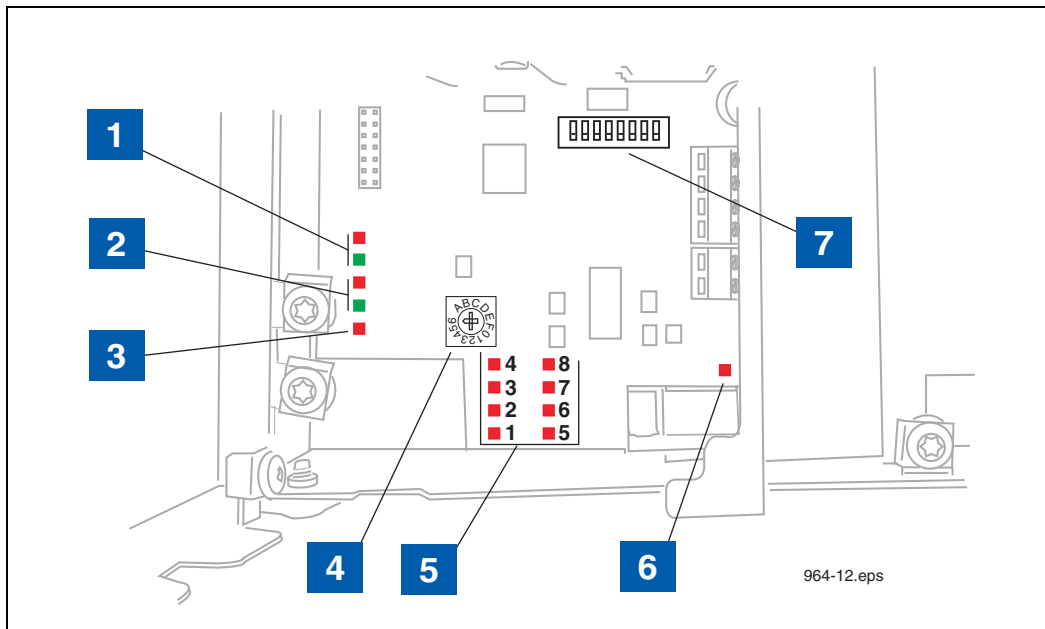

Figure 12. TLS RF Diagnostic LEDs And Switch Locations
- b. Go to the TLS RF, open its cover. One of the 8 Red received LEDs should be flashing (refer to item 5 in Figure 12). Observe which LED is lit and compare it against the Transmitter Device Number; they should match. For example, if the Transmitter ID is set to 1, the LED number 1 in the TLS RF should be flashing.
2. In this example, device output 1 is a Mag probe - Observe polarity. Note: each time a transmission is received from this device, LED 1 (see item 5 in Figure 12) will flash.
3. In this example, device output 2 is a Mag Sump Sensor - Observe polarity. Note: each time a transmission is received from this device, LED 2 (see item 5 in Figure 12) will flash.
Figure 12 locates the diagnostic lights and setup switches in the TLS RF.
**LEGEND FOR NUMBERED BOXES IN Figure 12**